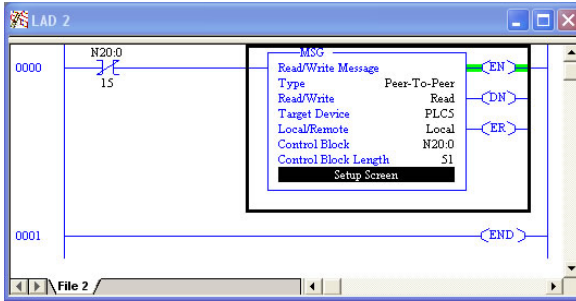

Figure 116: Completed PLC Program
7) The program is now complete. Refer to Figure 116.